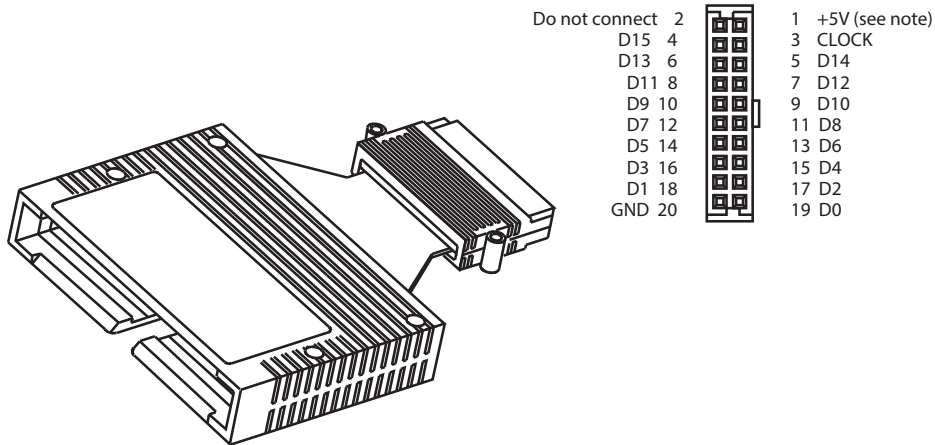

Figure 4.5. Pinout for 100 kΩ isolation adapter (Keysight part number 01650-63203).
1. The Keysight 01650-63203 saves space by using a common ground (see Figure 4.5). This will impact signal fidelity, especially faster transition times (< 4 to 5 ns).